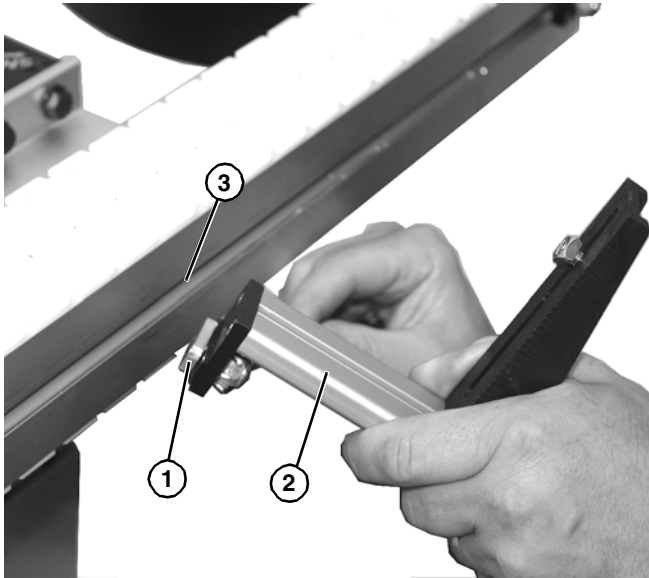

Figure 31
1. Install stud (Figure 31, item 1) on guiding assembly (Figure 31, item 2) into side rail channel (Figure 31, item 3). The end guiding assemblies should be no greater than 12" from end of the conveyor.